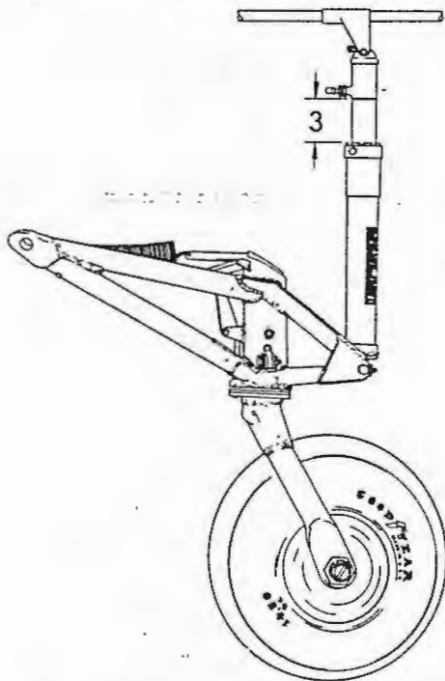

Figure 1-18. Tail Gear Shock Strut Inflation
- g. Replace filler plug, tighten securely, and inflate strut to 3 inches. See figure 1-18.